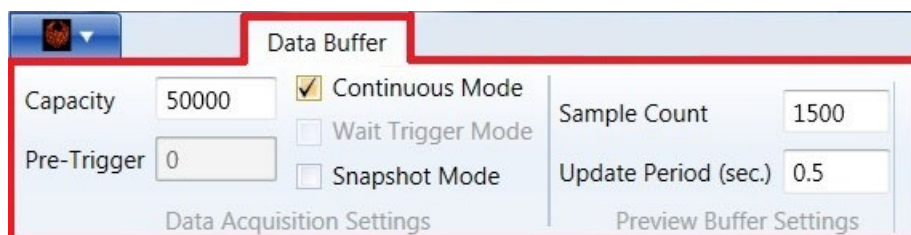

Figure 8-4. Data Buffer Tab
4. [Data Buffer tab] For a basic power measurement, select or change the following settings in the Data Buffer tab, as shown in Figure 8-4: